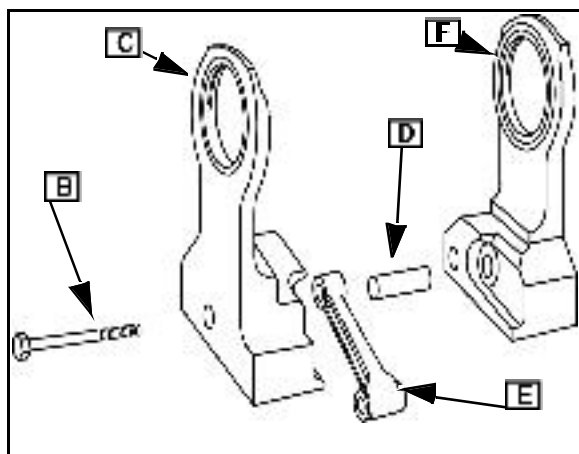

Fig. 18
6. Remove screw (B) from counterweight.
7. Remove PTO side weight (C), dowel pin (D), and link (E) from crankshaft.
8. Remove crankshaft from magneto side counterweight ([F] Fig. 18).